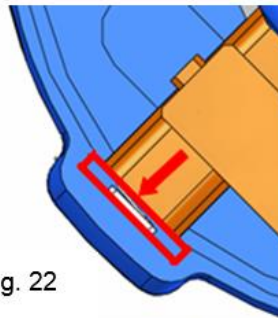

Fig. 22
- Make sure the steel plate on one end of carbon brush withstand to the groove of middle housing (Fig. 22)